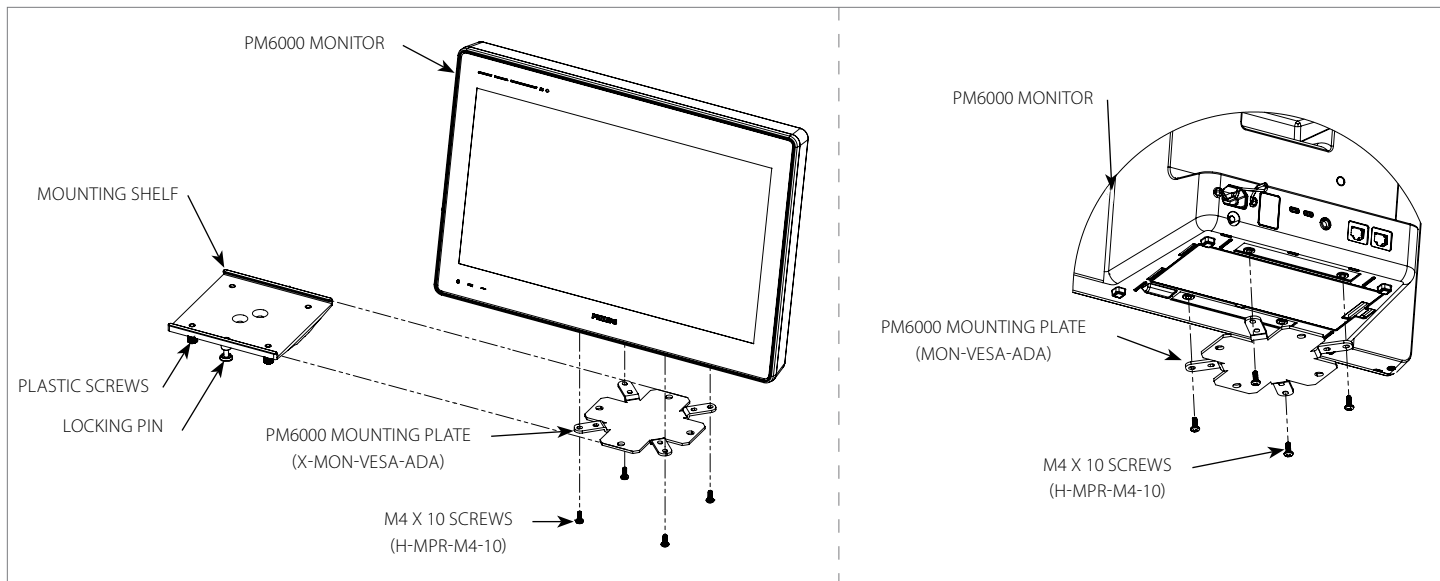

Figure 1
1. First install the **PM6000 MOUNTING PLATE** to the **PM6000 MONITOR** with 4x **M4 SCREWS** (Figure 1).